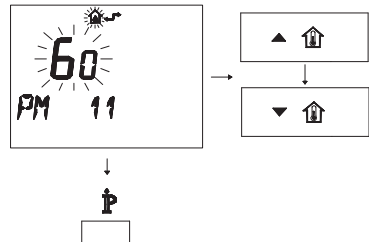

Fig. 7.35
- To modify the programmed SET, act on buttons **▲** or **▼** and wait for the programmed number to flash (Fig. 7.35). Each step increased or decreased corresponds to 1 second.